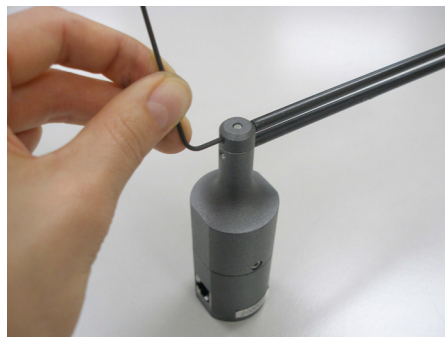

Figure 4-4. Tighten Set Screw
- Step 4. Use a 5/64" Allen key, which is supplied with the system (this is the smallest Allen key in the set), to tighten the top set screw (Figure 4-4).